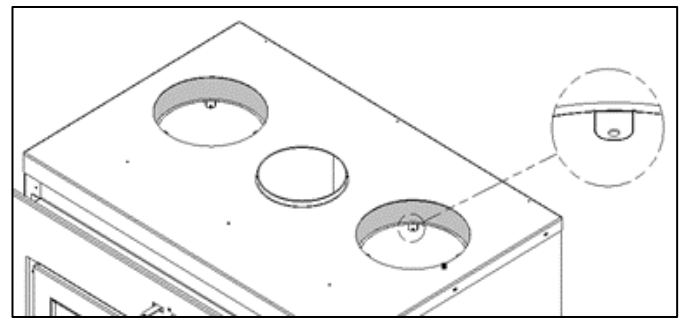

Figure 3-17: Tabs Inside the 8 Inch Knockouts
3. Bend the tabs inside the 8 inch knockouts (Figure 3-17) upwards.